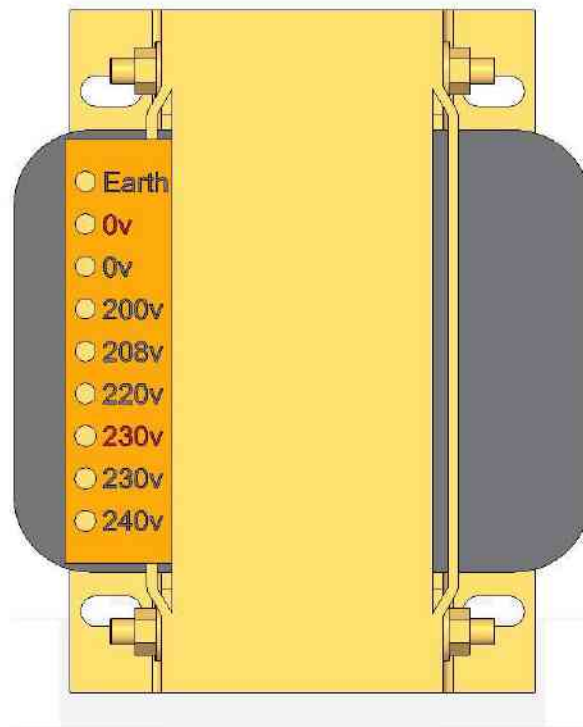

Figure 2 – Transformer showing different electrical supply connections
- With reference to Figure 2, change the position of wire 30 (W30) and wire 31 (W31) so that they are in the correct position for your electrical supply. Ensure the connections are fully tightened. **Do not move the wires attached to the red 0 V and 230 V connectors, as these provide power to the secondary stepper motor transformer and are not part of the procedure.**